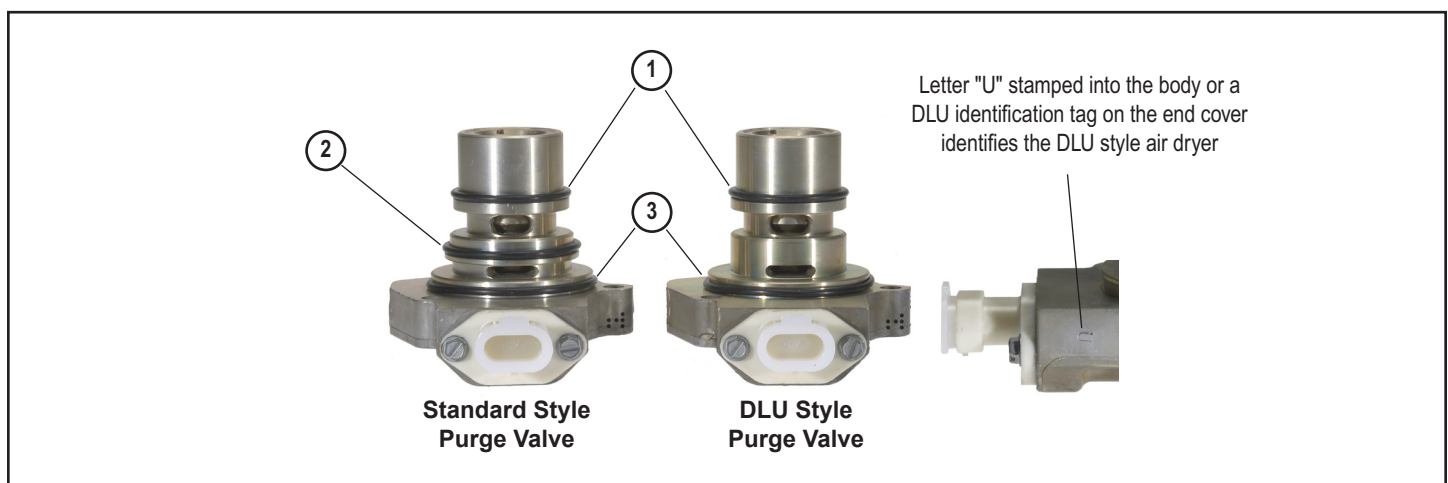

Figure 3 Identifying the Bendix® AD-9® and AD-9® DLU Purge Valve Assembly
- Pull the purge valve assembly out of the end cover. Discard o-rings (1), (2) and (3). Note: O-rings (1) and/or (2) may be lodged in the end cover bores — be sure to remove these. Note: DLU-style purge valves do not have an o-ring (2) or an o-ring groove in the purge valve housing. Refer to Figure 3.
- Remove and discard the two screws (4) that secure the Heater and Thermostat assembly (5) to the purge valve assembly.
4. Determine if the purge valve assembly is a standard or DLU-style. *Refer to Figure 3.*
5. Lubricate the o-rings (1), (2) and (3) and the respective grooves or support areas on the purge valve assembly. *Note: The DLU-style air dryer does not use o-ring (2).*
6. Install o-rings on the purge valve. **IF THE DLU-STYLE PURGE VALVE ASSEMBLY IS IN USE, DISCARD O-RING (2).** *Refer to Figure 3.*